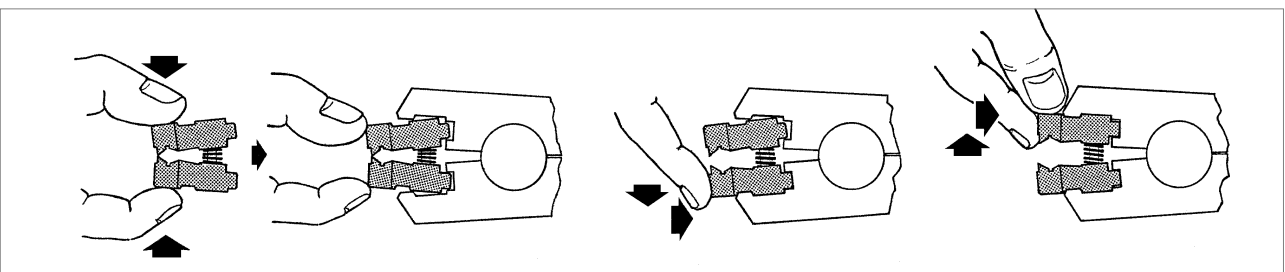

Fig. 13
- 3) To fit the single jaws, follow the instructions illustrated in fig. 13.